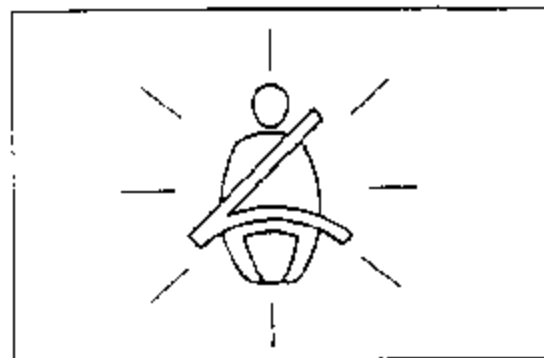

Fig. 6
- f. Verify that the seat belt warning lamp is operational by turning the ignition switch to the **ON** position. The seat belt warning lamp should glow for 4 to 8 seconds regardless of whether the belt is latched or unlatched. (See Fig. 6)